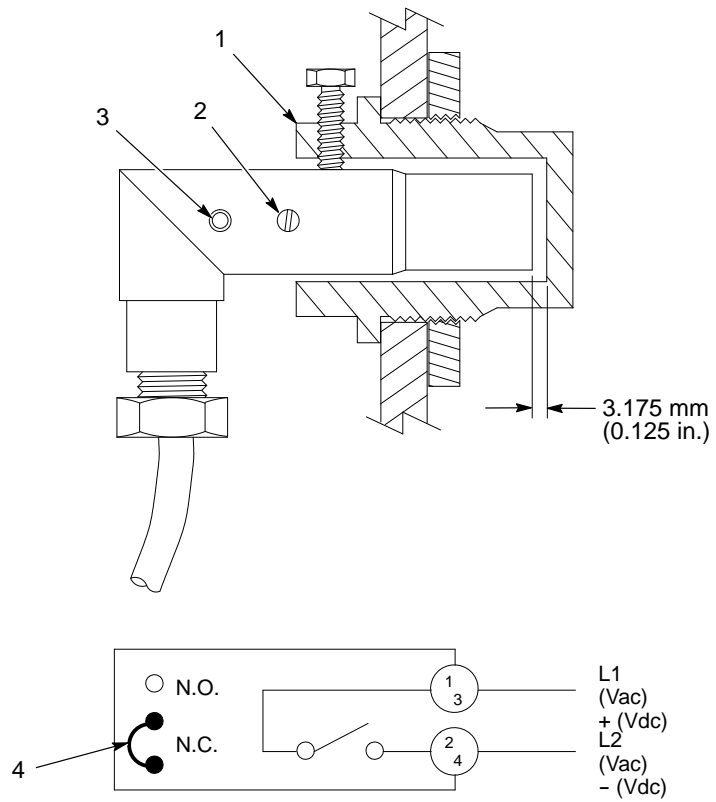

Figure 3-2 Feed Hopper Level Sensor Calibration
1. See Figure 3-2. Insert the level sensor into the plastic mounting well (1) in the side of the feed hopper until it bottoms out, then tighten the plastic screws on the side of the well to hold the sensor securely.
6. If the sensor LED (3) is on, slowly turn the sensor potentiometer (2) clockwise until it goes off. If the LED is off, slowly turn the potentiometer counterclockwise until it lights, then clockwise until it goes off.